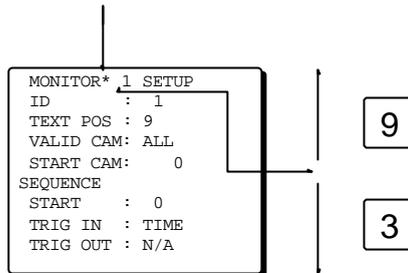
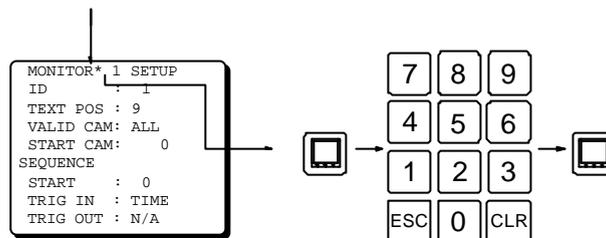

Figure 3, Change of INDEX number
Figure 4, Change of INDEX number
2-03	Index field: Used to select an alarm, camera, monitor and so on to program. The key 9 or the key 3 can be used to change the index, no matter where the cursor is positioned (refer to figure 3). The index field can also be changed by entering a new number directly (refer to figure 4).